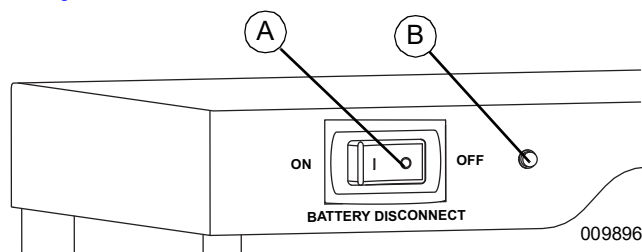

Figure 6-4. Blackstart
See Figure 6-4. If LED (B) goes to solid orange after 3 seconds when the Battery Disconnect Switch is turned ON, the battery is disabled. If the LED goes to green, it is already enabled and does not require a Blackstart. See Battery Status LED for more information.